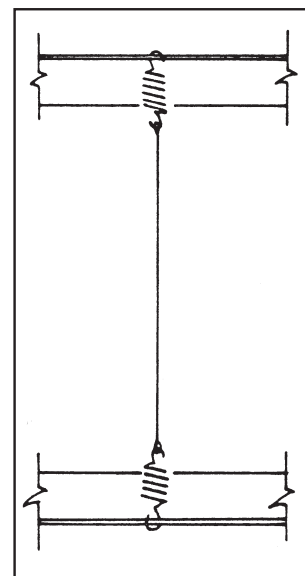

Figure 15
9.1 IONIZER WIRE REPLACEMENT (REFER TO FIGURES 15 AND 16)